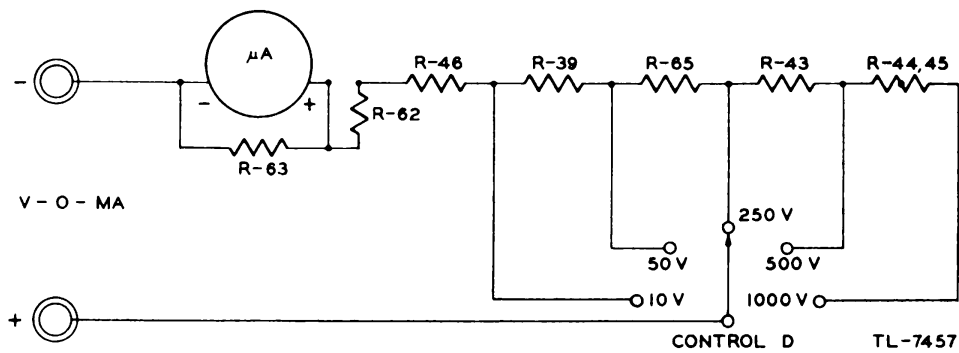

FIG. 16. MODEL 104 COMBINATION TESTER, SIMPLIFIED D-C VOLTMETER CIRCUIT
c. *Combination Tester as D-C Voltmeter (fig. 16).* With **Control D** set at any d-c voltage range, the correct multiplier resistors are placed in series with the indicating meter.